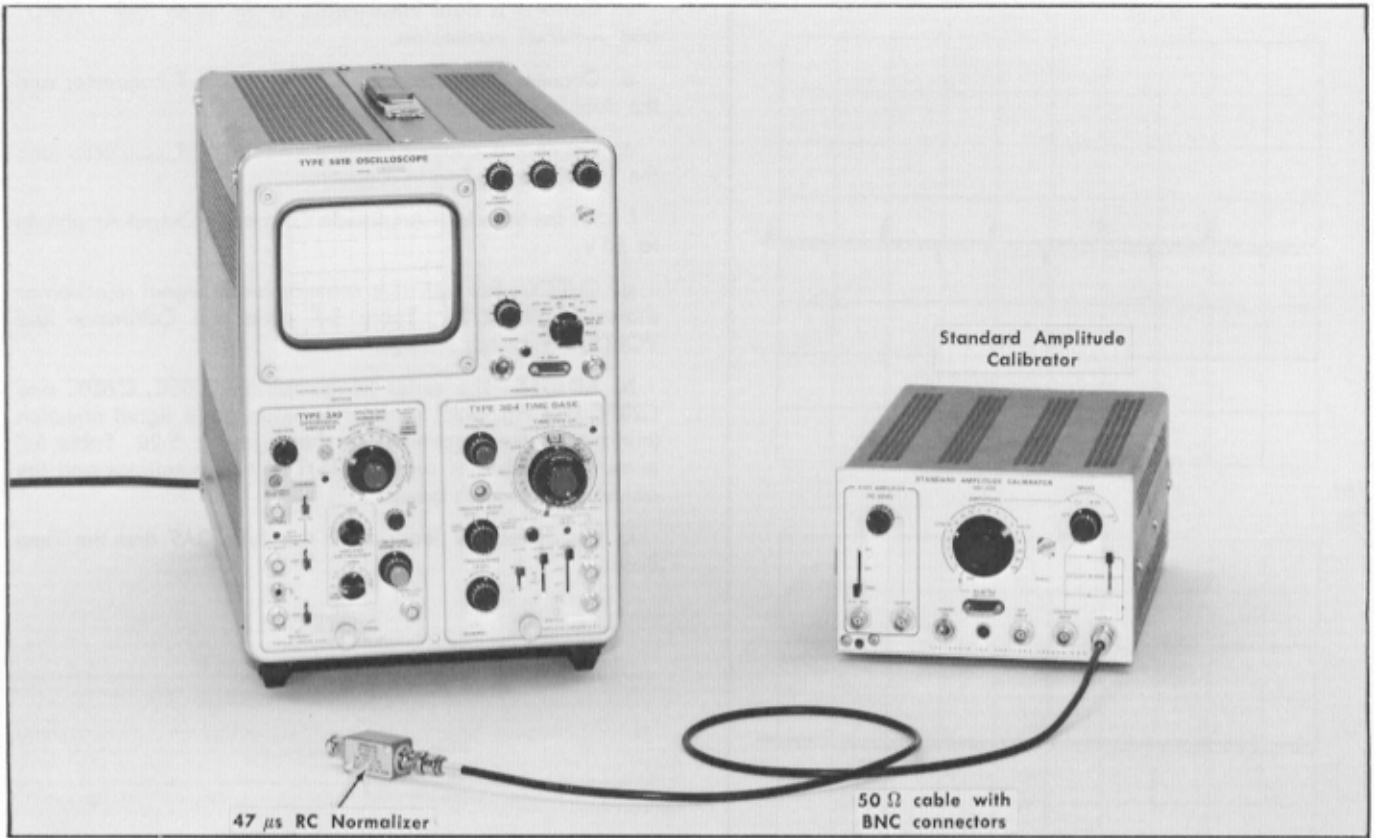

Fig. 5-27. Equipment required for step 21.
- a. Test equipment is shown in Fig. 5-27.
- e. CHECK—The display for optimum square wave as shown in Fig. 5-27, using the Standard Amplitude Calibrator Amplitude and Type 3A9 VOLTS/DIV settings listed in Table 5-8.